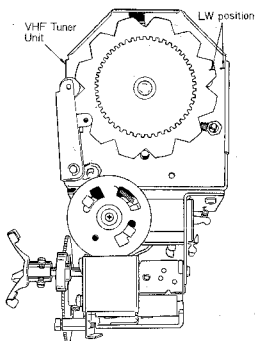

Fig. 24
1. Set tuner at the LW position, as shown in fig. 24.